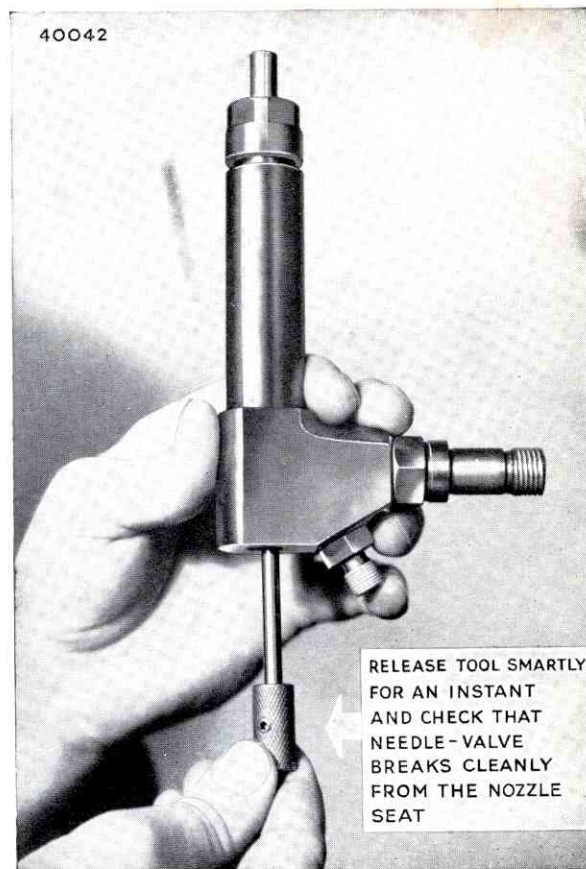

FIG. 74. THE INVERTED TEST
2. Hold the injector vertically in an inverted position, Fig. 74.